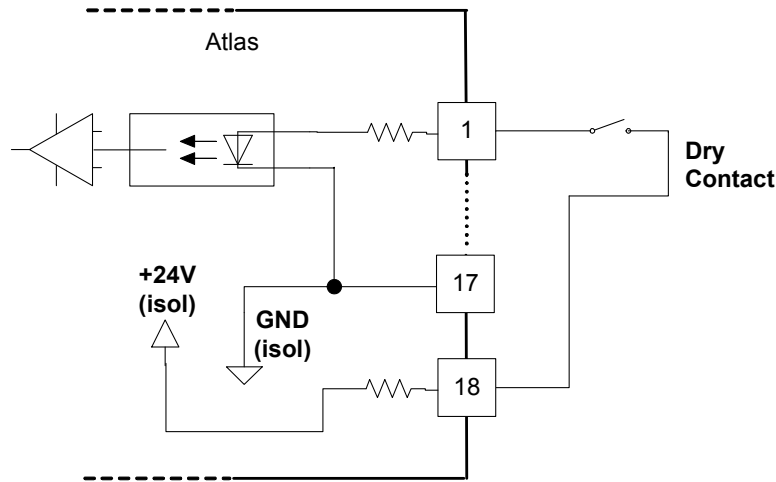

Figure 5-9. Wiring Example—Discrete Input Interface to the SmartCore Board
- Refer to Figure 5-9 for discrete input wiring.